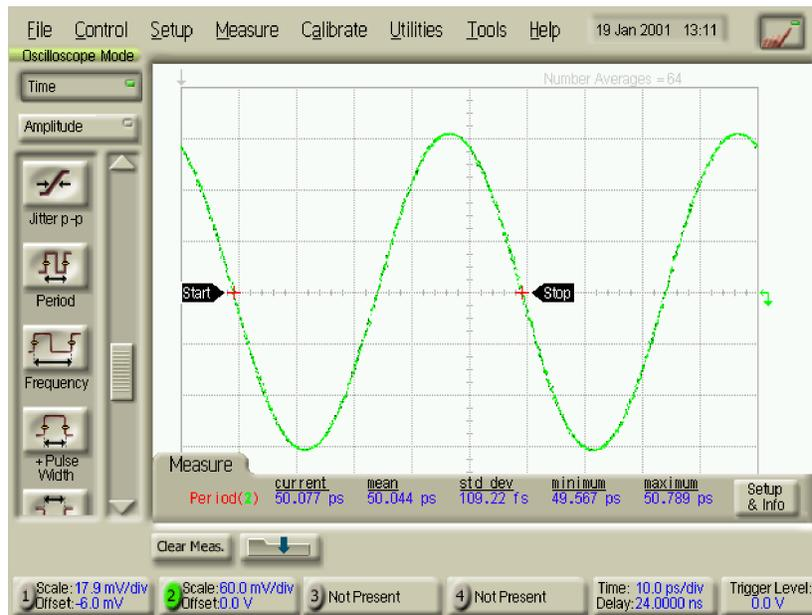

Figure 2-5. Setting Period for Measuring Time Interval Accuracy
- 12 On the DCA screen, press Period. See Figure 2-5.